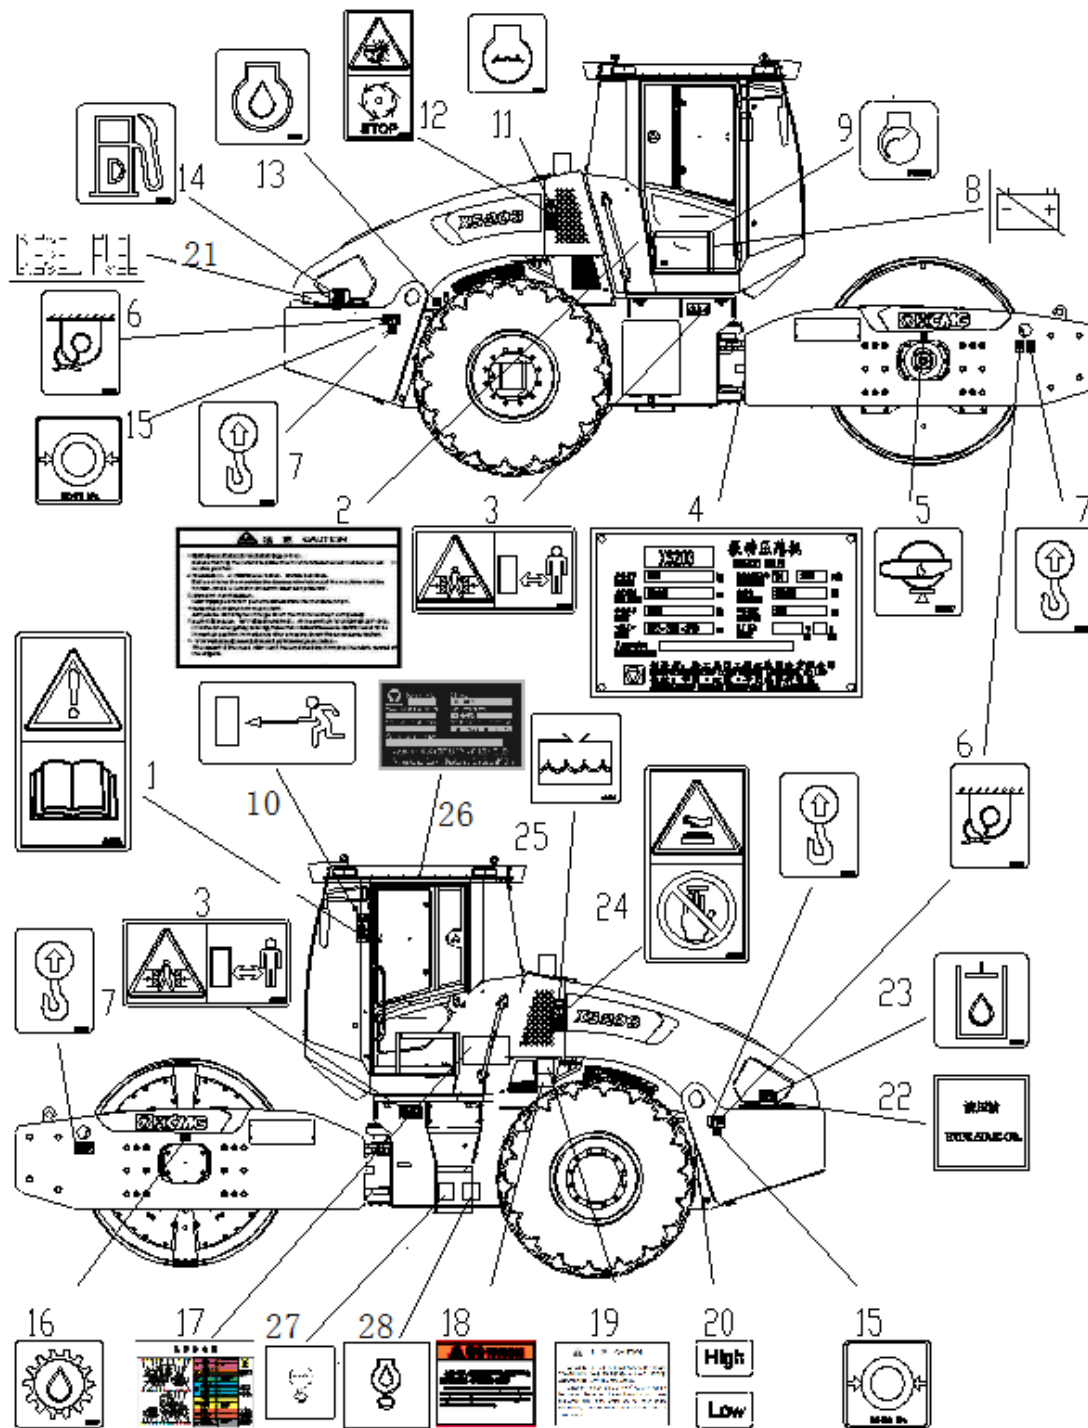

Figure 2-2
2.2.3.1 Layout of safety decals and auxiliary decals on machine (Figure 2-2)